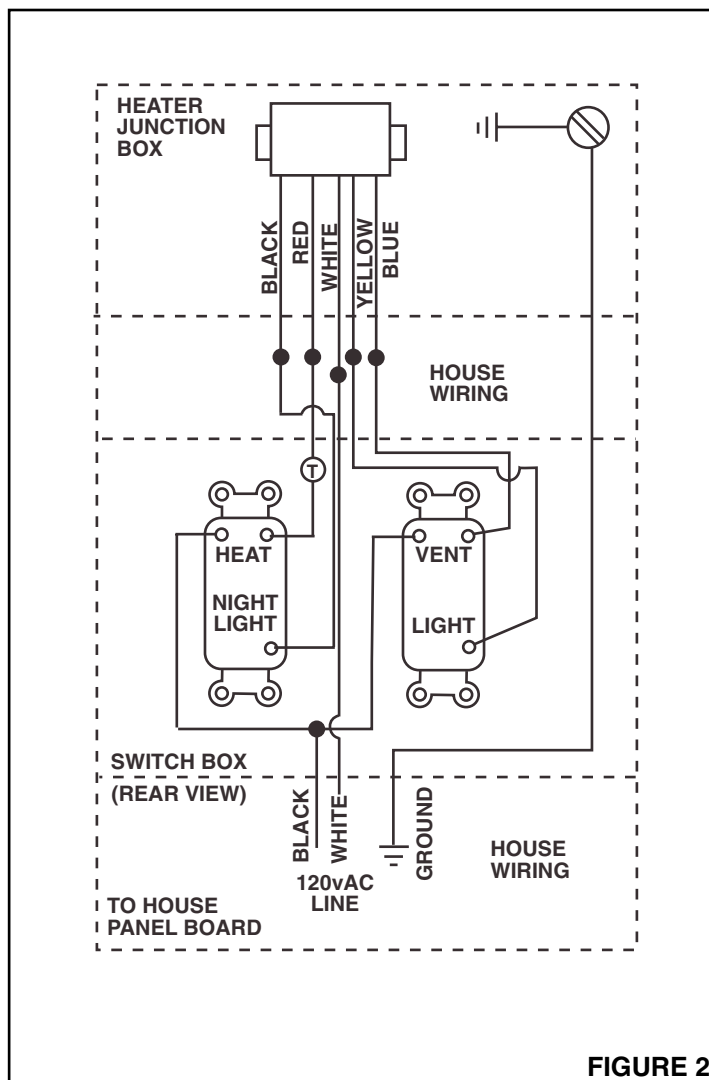

FIGURE 2
1. Refer to **Figure 2**. Run five (5) wires and ground of 12 gauge from heater's junction box to wall switch.